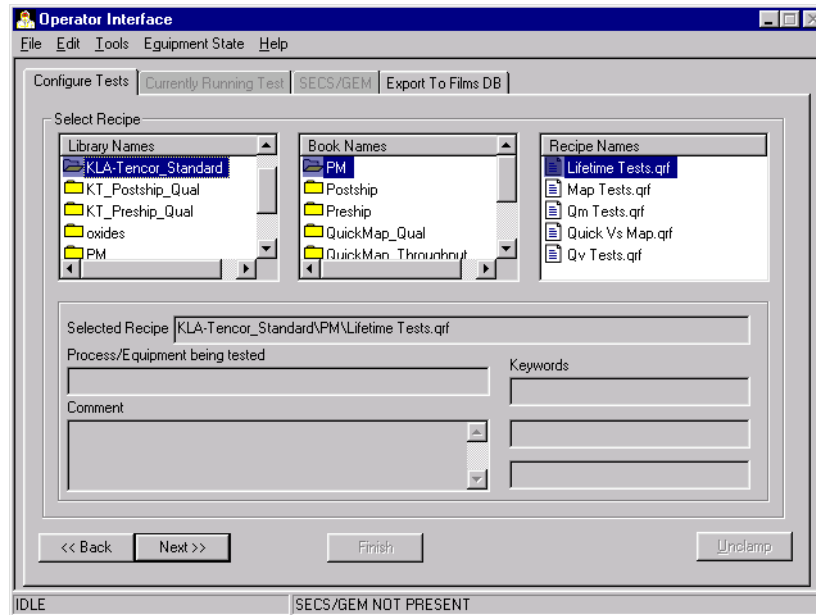

Figure 4-5: Select Recipe Page
7. When entries are completed, click the Next button to proceed to the Select Recipe page (Figure 4-5).
The Select Recipe page (Figure 4-5) allows you to select the test *recipe* used. To get to this page, click Next at the bottom of the Select Wafers page. (Recipes are created by the test engineer using the Recipe Builder program. After creating a recipe, the engineer saves the recipe in a *book* of related recipes. The book is stored in a *library* of related books.)